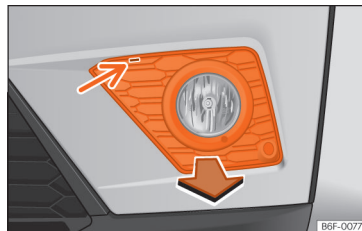

Fig. 57 Front fog light: remove the grille
- Lever the groove with a screwdriver »» Fig. 57 (arrow). Next, unclip the clips located on the edge of the grille, pulling on it.